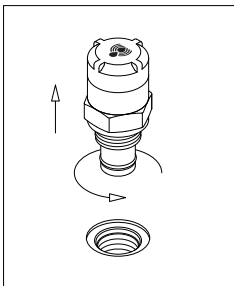

fig. 9
- (Fig. 9) Unscrew the indicator body
- For the mounting/dismounting of the indicator, please refer to the paragraph "Clogging indicator replacement" above (Fig. 9÷10)